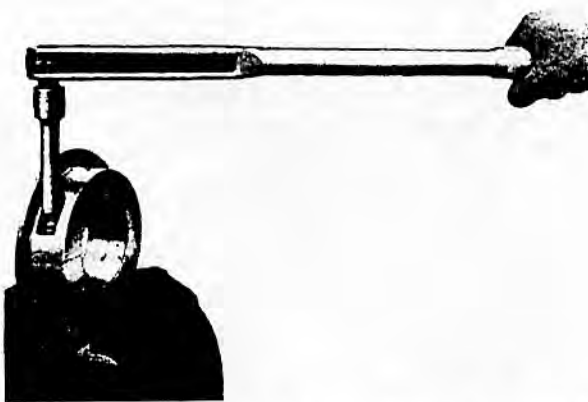

FIG. 148 TIGHTENING SOCKET SCREWS OF FRONT BEARING HOUSING USING SERVICE TOOL MF113 WITH TORQUE WRENCH
5. Using Service Tool MF113, shown in Fig. 148, unscrew socket screws attaching upper and lower halves of all bearing housings and extract bearing liners, also extract thrust washers and rubber sealing plugs which are fitted in front and rear bearing housings only.